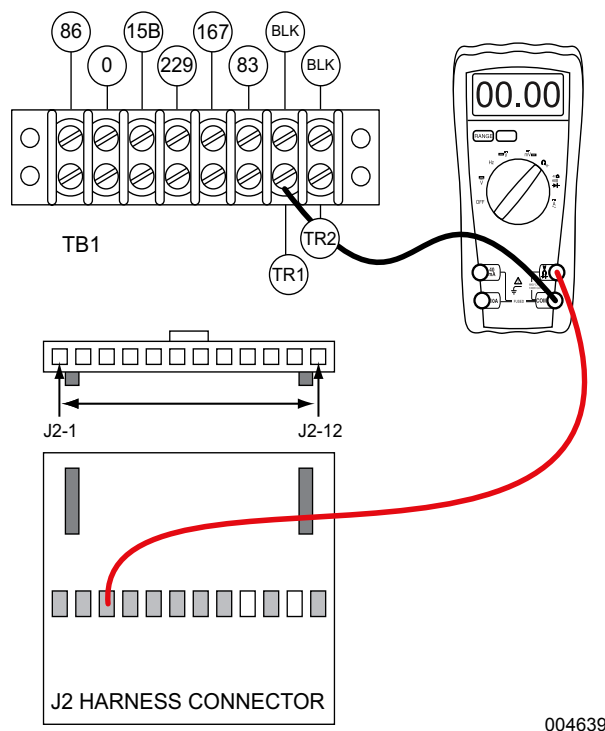

Figure 4-62. Check TR1 Wiring
5. See **Figure 4-62**. Connect one meter test lead to wire TR1 at terminal block 1 (TB1).